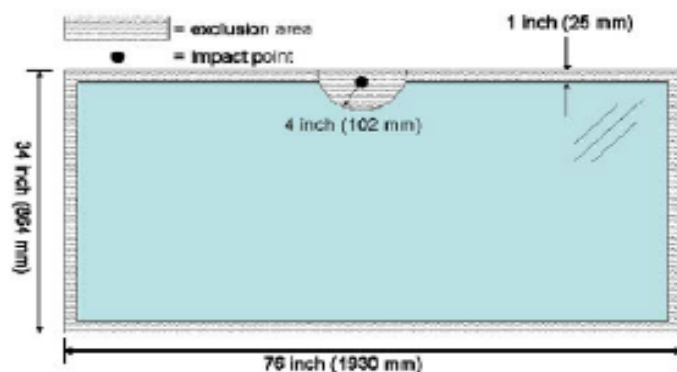

Figure 8: Center Punch Fragmentation
- Test the Specimen – strike the test specimen 1in. (25 mm) inboard of the longest edge at its midpoint until fracture occurs. (Figure 8 below can be found in the ANSI Z97.1-2015 Section 5.2.4)